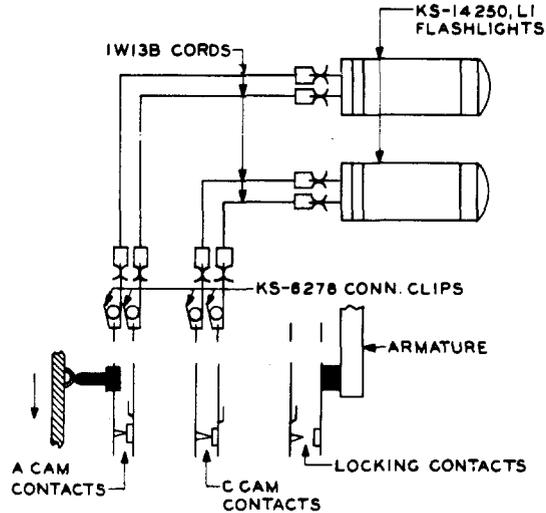

Fig. 20 - Connections for Checking Timing Interval
- ↗ (1) Preparation: Connect one end of each of the 1W13B cords equipped with the 360-type tool to the terminals of the bottom cap of the KS-14250, L1 flashlight. Use the flashlights as specified below in making the tests. Closure of contacts will be indicated by lighting the flashlight and opening of contacts by extinguishing the flashlight.
- L (2) Initial Registration - Minimum Timing Interval: Connect the flashlights to the proper spring terminals at the rear of the timer, as shown in Fig. 20. Both flashlights should light. Operate the timer magnet by connecting ground to the right winding terminal connection at the top of the timer. Begin timing with the KS-3008 stop watch when the "A" cam contacts break. After an interval of a few seconds less than 5 minutes, the "C" cam contacts will break and then release. Cease timing at the reclosure of the "C" cam contacts.